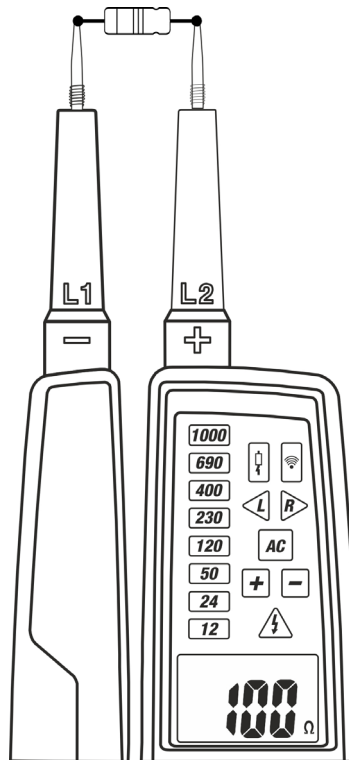

Fig. 10: Resistance measurement
3. Connect the **L1** and **L2** probes to the object under test (see Fig.10). The resistance value is shown at display.